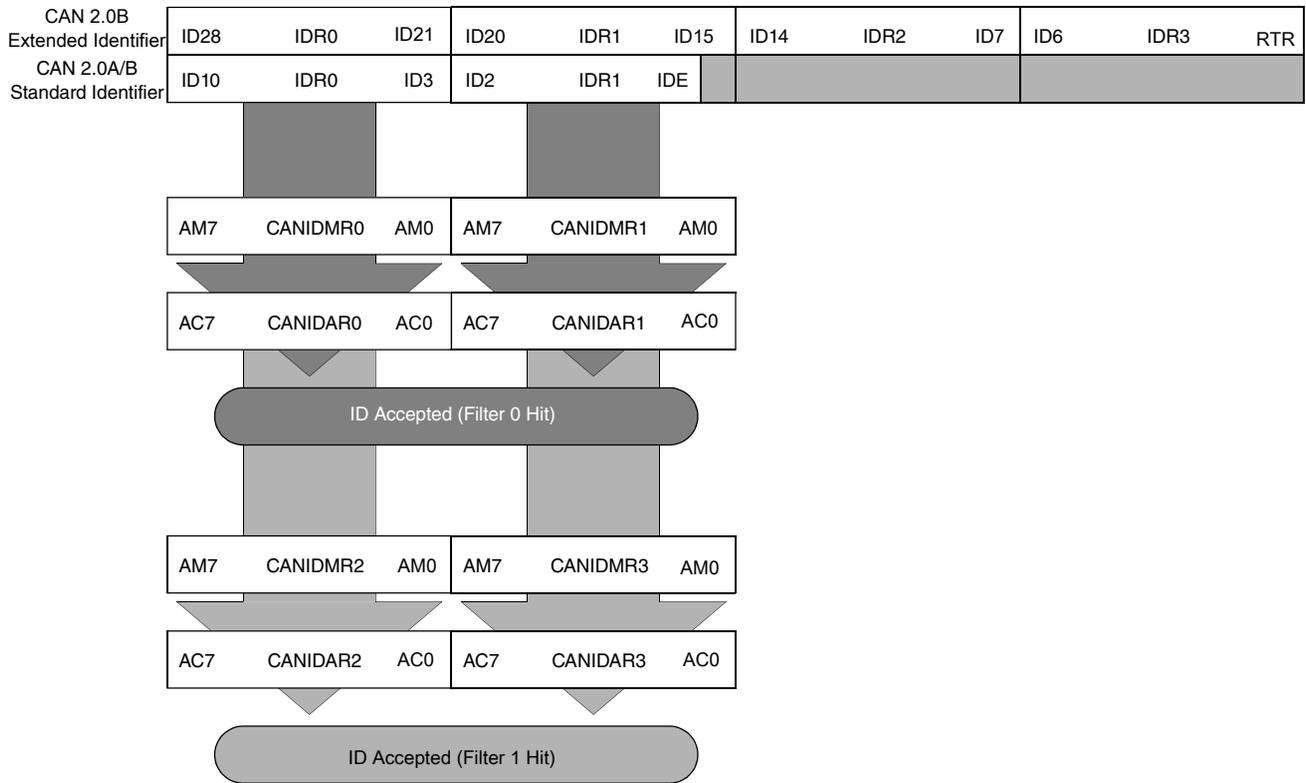

Figure 32-6. 16-bit maskable identifier acceptance filter
- The 11 bits of the standard identifier, the RTR and IDE bits of CAN 2.0A/B messages. Figure 32-6 shows how the first 32-bit filter bank (CANIDAR0-CANIDAR3, CANIDMR0-CANIDMR3) produces filter 0 and 1 hits. Similarly, the second filter bank (CANIDAR4-CANIDAR7, CANIDMR4-CANIDMR7) produces filter 2 and 3 hits.